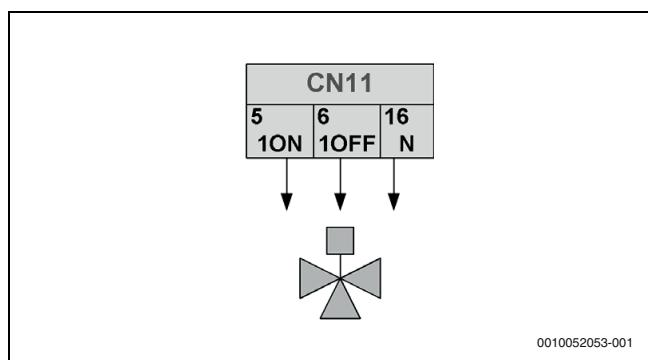

Fig. 78 3-way valve SV1, type 2 control signal
- ▶ Read the 3-way valve use and installation manual carefully and install the valve as shown in the figure 78.